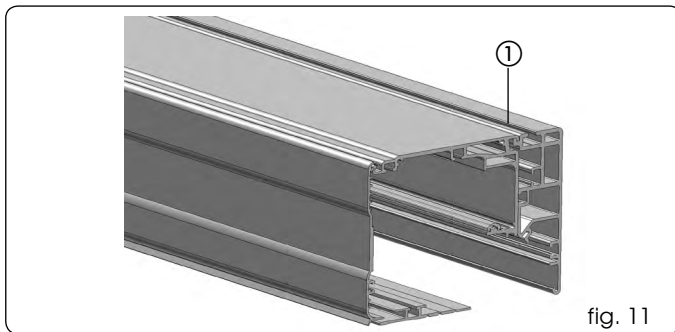

fig. 11
Intermediate securing points may be necessary, depending on the length of the header, using the guide indicated in fig. 11 ref. ①. central securing is required for 3 to 4 m lengths. two intermediate securing points are required for 4 to 6.1 m lengths.